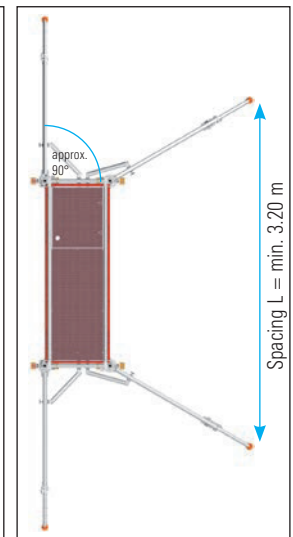

Fig. 8
**Assembly against wall:** on the wall side about 90° to the tower end face. Side facing away from wall about 60° to the tower longitudinal side (Fig. 8).